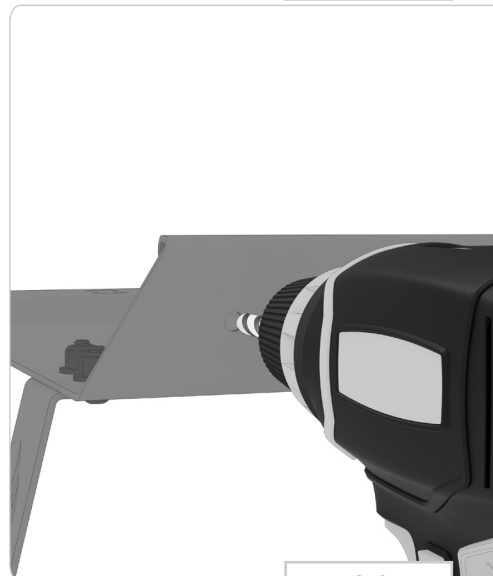

FIG 21
6.3 Drill Mounting Holes: Remove the **Curtain Rod** and drill through the **Headliner Shelf Flange** in the locations marked from the last step (FIG 21).